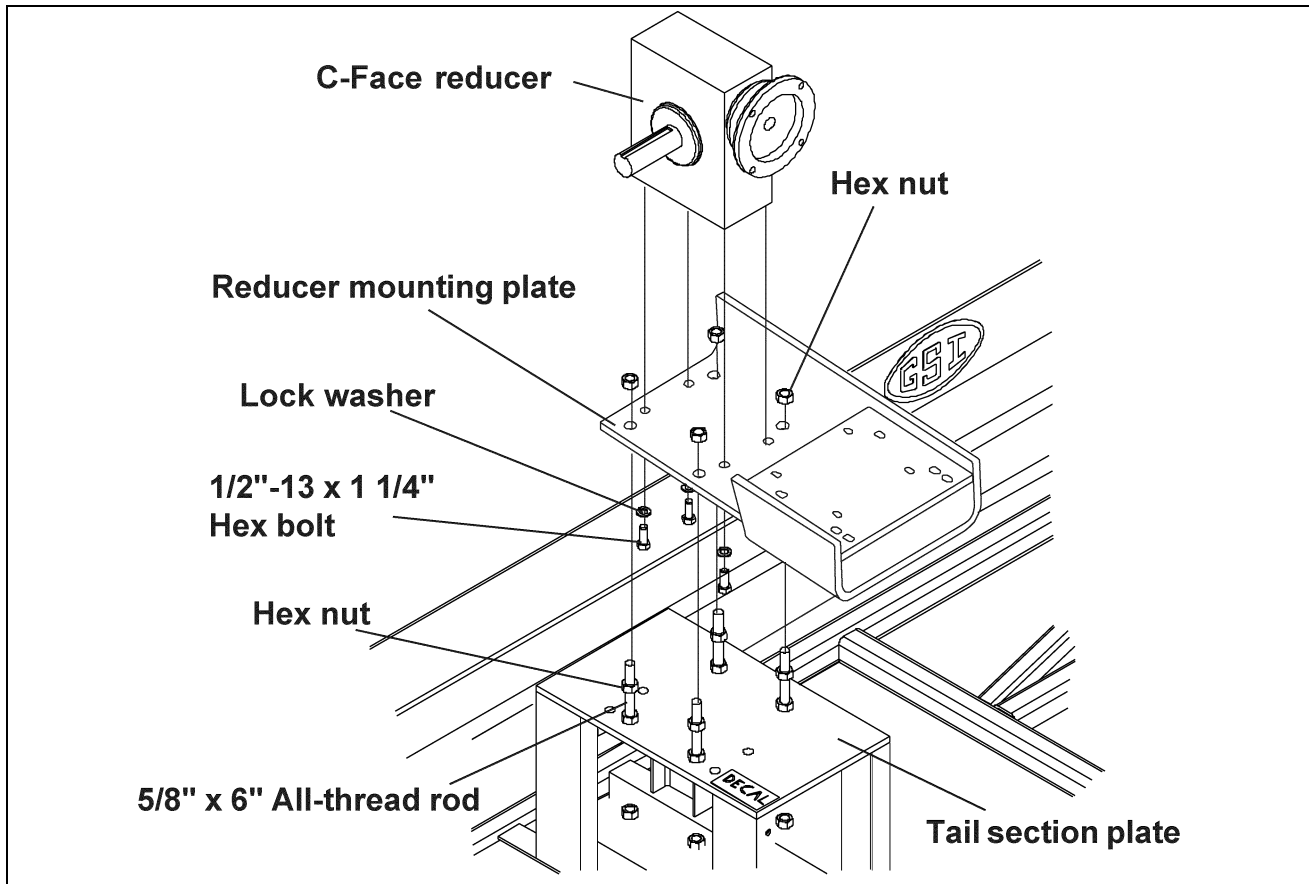

Figure 5M
- A. Attach the C-Face reducer to the mounting plate using four (4) 1/2"-13 x 1-1/4" hex bolts and lock washers. (See Figure 5M)
- B. Fasten the reducer mounting plate to the tail section plate using four (4) 5/8"-11 x 6" all-thread rods and sixteen (16) hex nuts. Adjust the mounting plate as close as possible to the tail section plate.